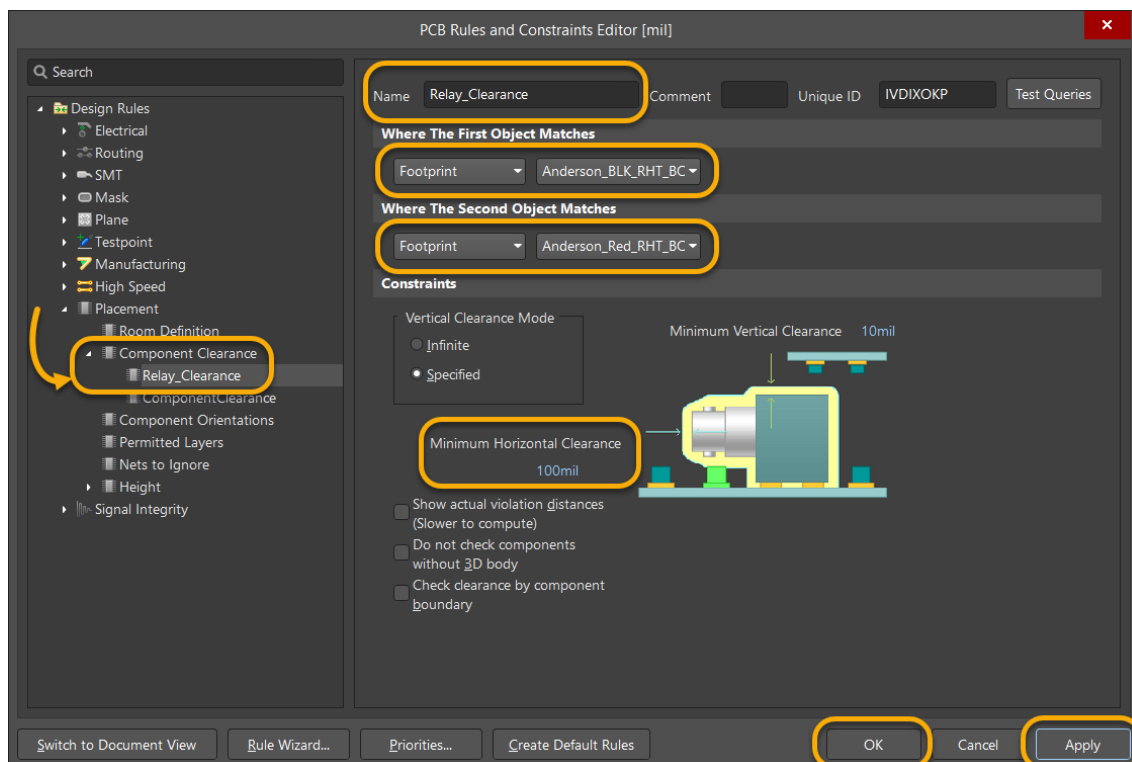

Figure 9. PCB Rules and Constraints Editor
31. Navigate to the *Placement* section and add a new rule, change the rule properties as below, use Figure 9 as reference: